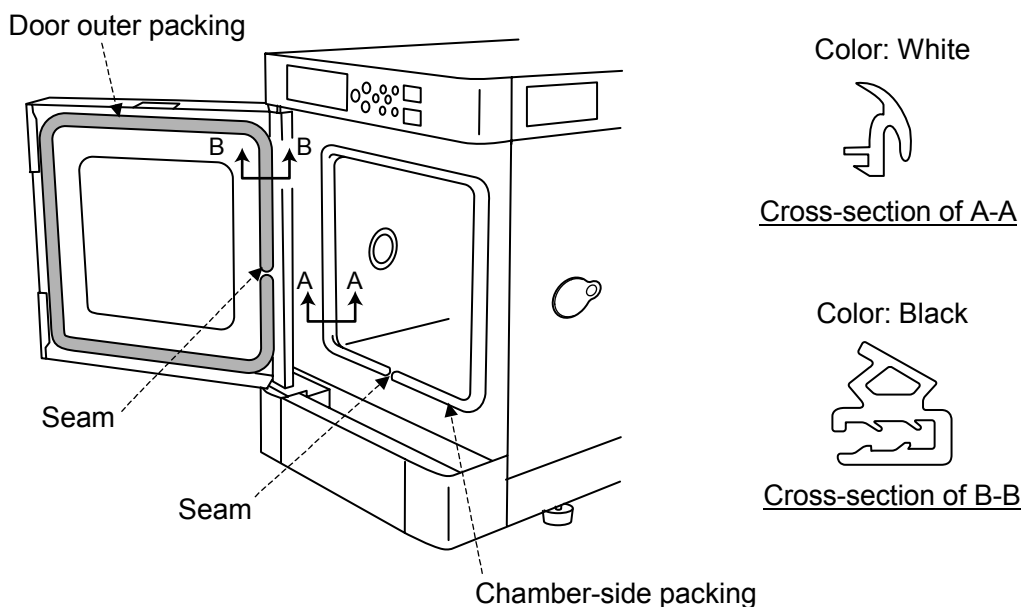

Fig. 5.6 Packing replacement
3. Attach a new door packing. (Position the packing so that the seam comes to the location shown in Fig. 5.6.)